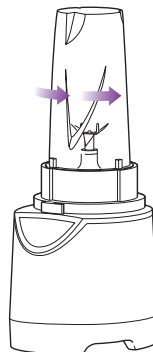
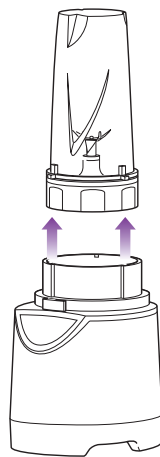

Fig. 4
Fig. 5
- 6 When you have reached your desired consistency, stop the appliance by removing your hand from the single serve cup. Then turn the single serve cup to the right (Fig. 4) and pull straight up to remove. (Fig. 5)
- 7 Push down on the “PULSE” on the handle to start the appliance. (Fig. 4)
- 9 To remove the lid, pull the lid handle up to a 90° angle. Turn the bowl clockwise to lift off the base. (Fig. 5, Fig. 6)